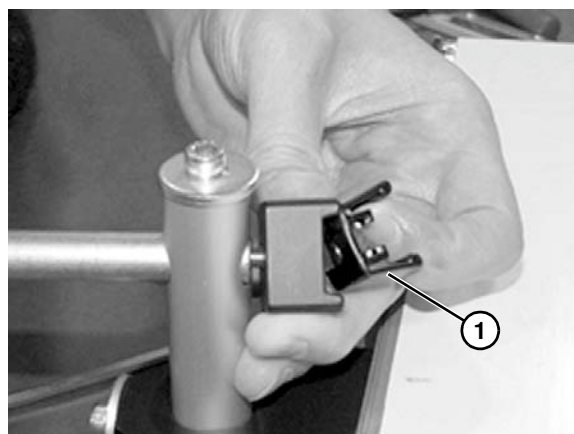

**Figure 36**
2. Tighten screws (**Figure 36, item 1**) making sure t-nut (**Figure 36, item 2**) rotates and engages inside of the t-slot.